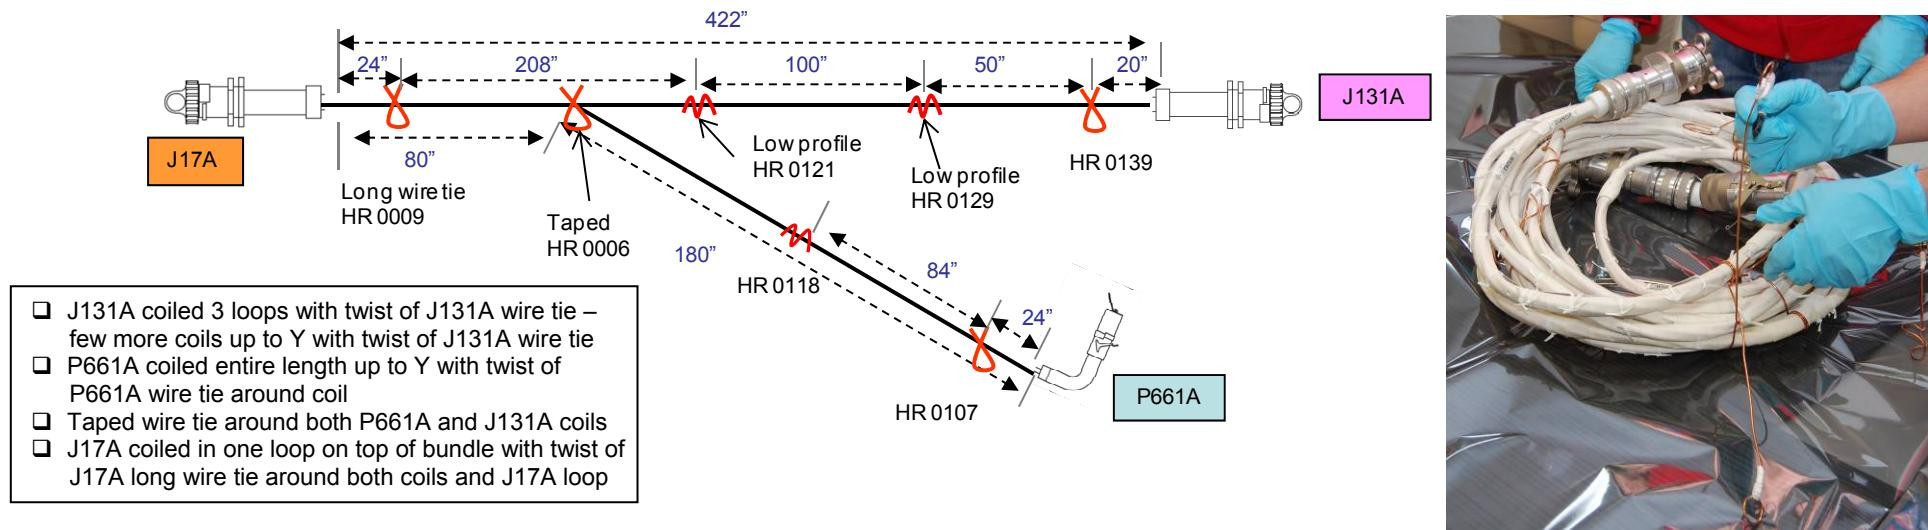

Figure 4: Ch 1/4 FGB Y-Cable (port)
- NOD1/FGB Ch 1/4 Cables (see fig 4)